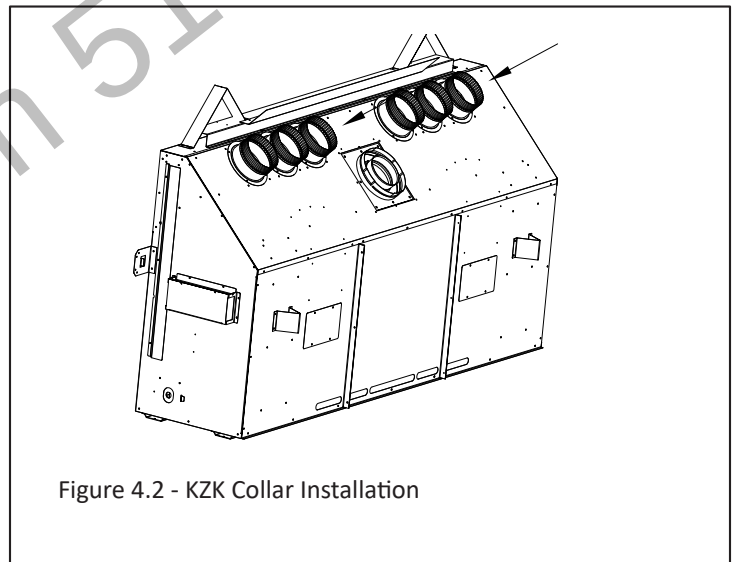

Figure 4.2 - KZK Collar Installation
2. Install the KZK collars that were provided with KZK-1510 as shown in Figure 4.2. Reuse the sheet metal screws from the previous step.